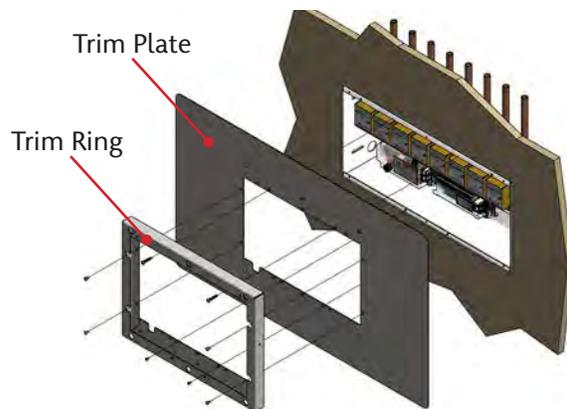

Figure 124: Retrofit Area Trim Panel
- a. Install trim plate assembly to rough-in box using the provided screws and/or drywall anchors. Slots in the trim plate will align with existing holes in the rough-in box flanges (Figure 124).
- a. Remove the trim ring from the standard trim plate and install the wide 27” wide x 16” tall trim plate from retrofit option kit (4107220615). Screws are provided in the option kit for attaching the trim ring to the trim plate (Figure 124).